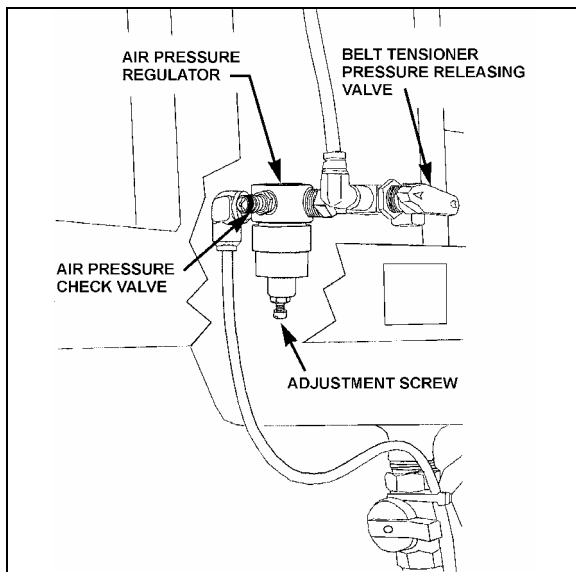

FIGURE 22: AIR PRESSURE REGULATOR
1. Open engine compartment rear doors and locate the belt tensioner pressure releasing valve (Fig. 22), mounted above the engine R.H. side door next to the air pressure regulator, then turn handle clockwise in order to release pressure and tension on belts.
3. Reset belt tensioner pressure releasing valve (Fig. 22) to 50 psi (345 kPa) for coaches and to 45 psi (310 kPa) for MTH to apply tension on the new belts as explained in Section 12.